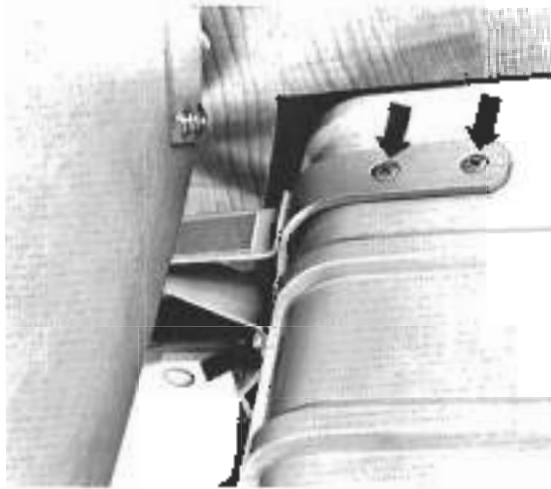

Fig. 7-9. Screws and bolt (arrows) that hold the right-hand bracket.
4. To detach the seat brackets from the engine cover panel, remove the two Phillips head screws and the bolt indicated in Fig 7-9 from the right hand bracket. Remove the two similar screws (but no bolt) from the left-hand bracket.